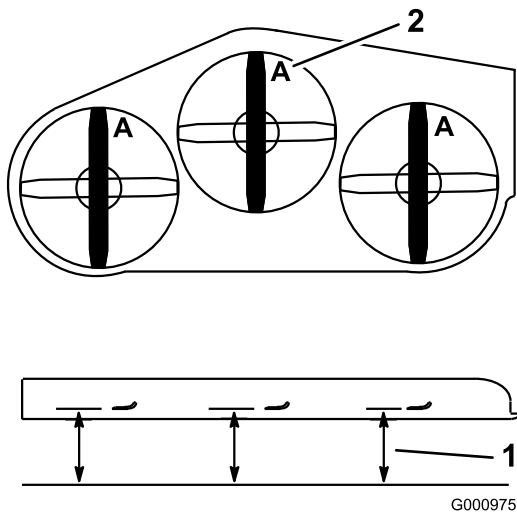

Figure 92
3. Rotate the blades until the ends face forward and backward (Figure 92). Measure from a level surface to the cutting edge, position **A**, of the blades (Figure 92). Note this dimension.